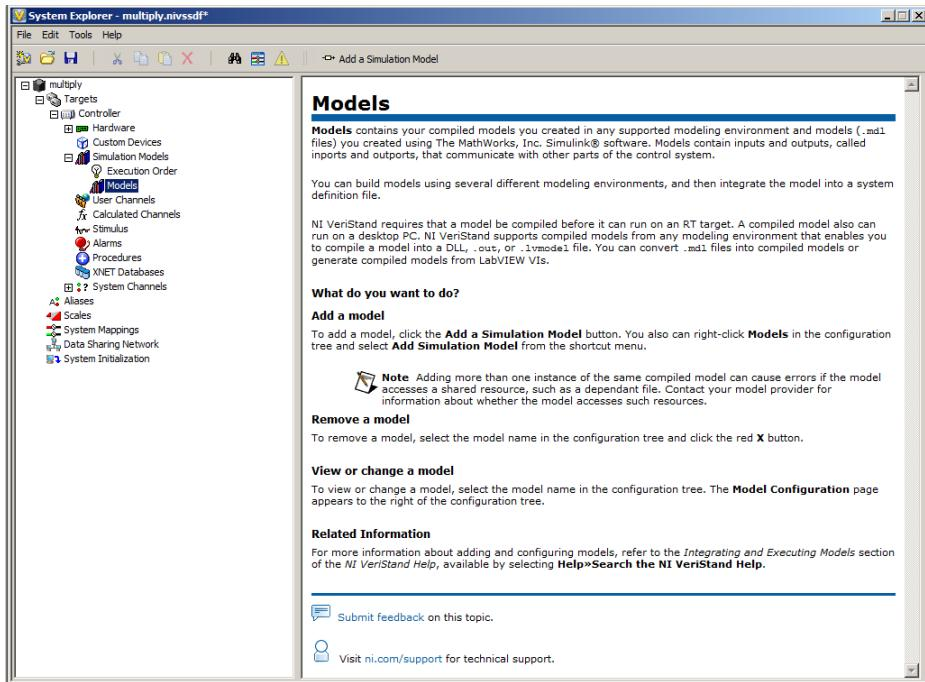
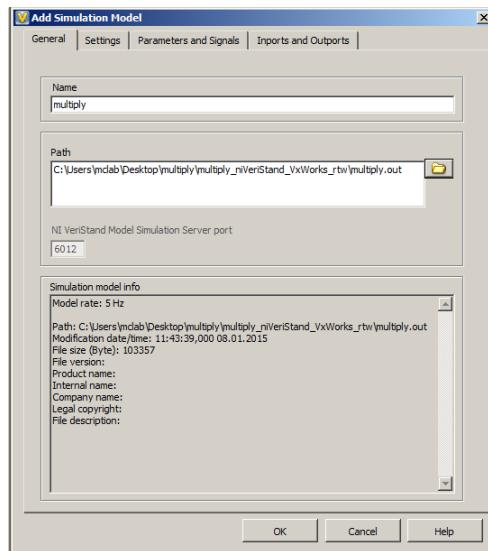

Figure 17: VeriStand - System Explorer - Models
Figure 18: VeriStand - System Explorer Model
2. Click Add a Simulation Model, as seen at the top of Figure 17. Browse to the output of the Simulink compilation, as seen in Figure 18. Finally, click Auto Select Decimation to make sure the model runs at the intended rate.